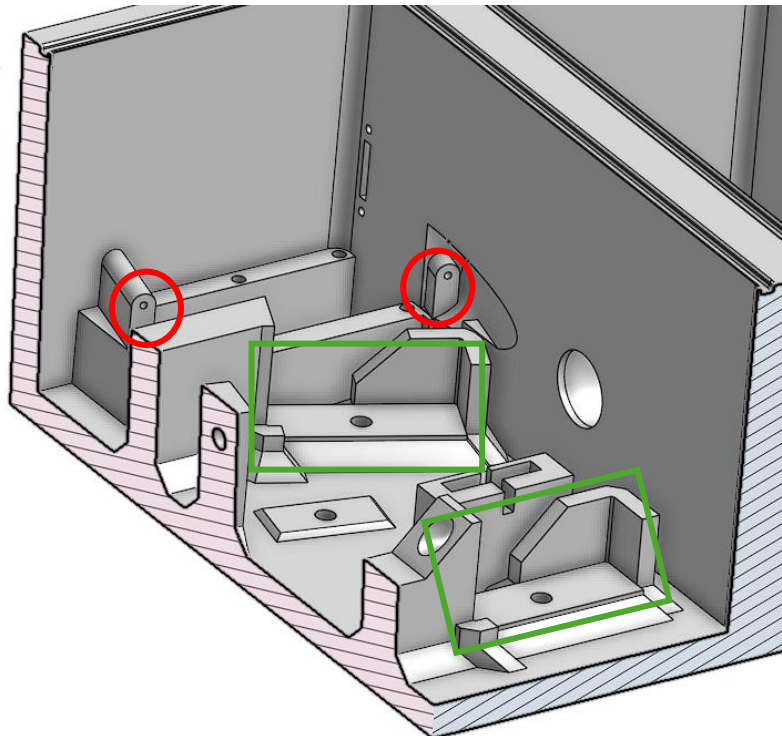

Figure 1
- c. Install the optical PCB using 2 #1x1/4" screws into the horizontally facing standoffs towards the back of the optical chamber which is on the left side (marked in red) in figure 1.
- a. Ensure the CCD chip (long rectangular one) is on the right side as seen from the perspective of figure 1.